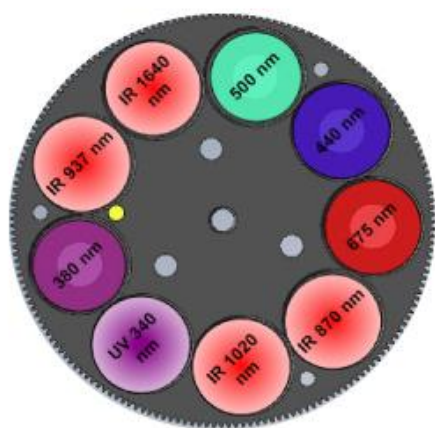

Figure 1: Standard type (CE318-TS9)
- **Standard / CE318-TS9:** It uses 340, 380, 440, 500, 675, 870, 937, 1020 and 1640 nm filters (Fig.1).